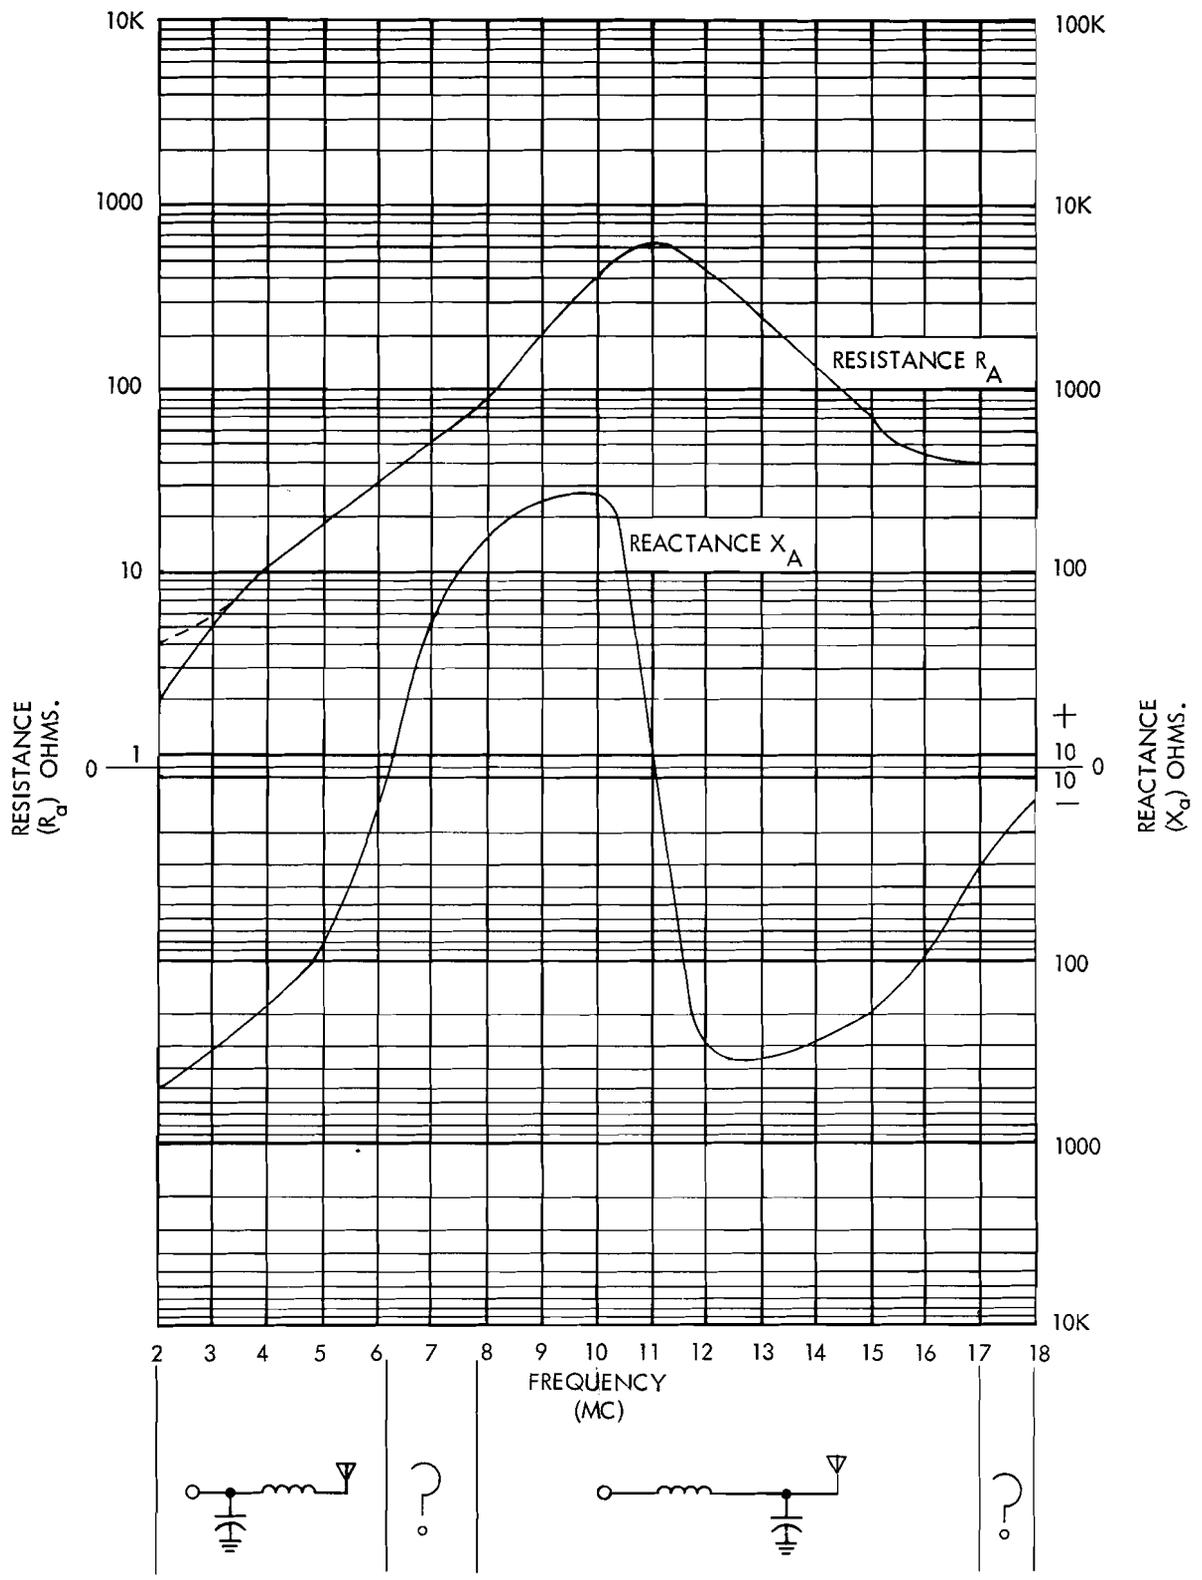

Figure 4-14. Reactance Chart for Unloaded, 35-Foot, Vertical, Whip Antenna
- w. When loading an antenna with a large value of R_A , it is difficult to see the antenna current meter reading when tuning with low power. It is advisable to use high power in these cases. For example, assume the antenna to be matched is the 35-foot whip at a frequency of 11 Mc. Figure 4-14 shows the R_A to be approximately 650 ohms. With a power input to the antenna coupler of 8 watts and an efficiency of 50%, the antenna current is 78 milliamperes. At 80% efficiency, the current is 100 milliamperes. With the input at 50 watts, an efficiency of 50% yields 200 milliamperes of antenna current. At 80% efficiency, the current is 240 milliamperes.